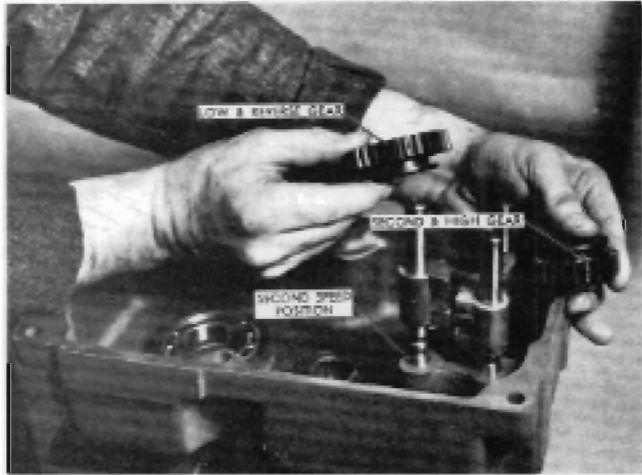

FIGURE 17
5. Shift the 2nd and high shift fork into the 2nd speed position and install the 2nd and high sliding gear, and the low and reverse sliding gear in position on their respective forks, Figure 17. Note that the shift fork grooves of the sliding gears face each other, and that the smaller of the two gears is the 2nd and high gears which goes on the bottom.